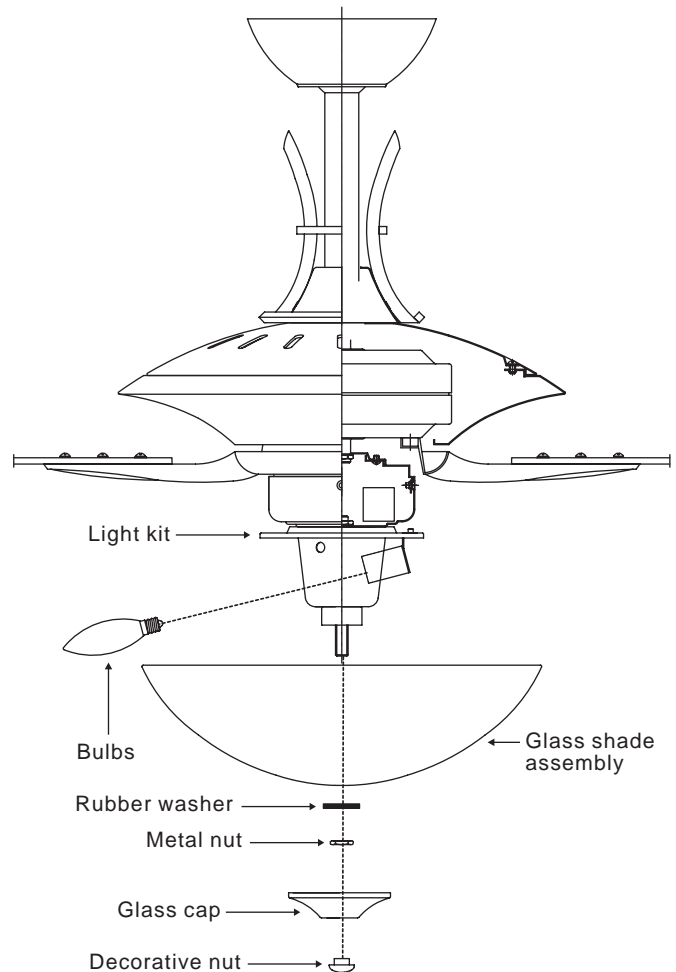

Figure 17
1. Install 3 x 40w candelabra bulbs (not included). (Fig. 17)
2. Place glass shade over the light kit stem, secure with the rubber washer, metal nut, glass cap and decorative nut. Do not overtighten. (Fig. 17)